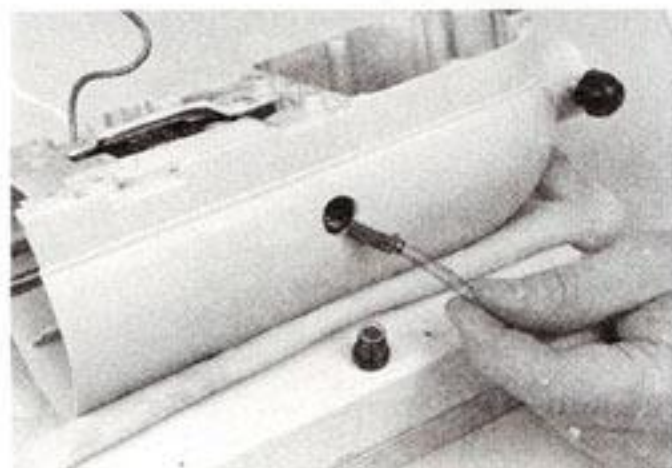

Fig. 30
- F. Unscrew the two brush holder screw caps and remove the brushes and springs (Fig. 30).